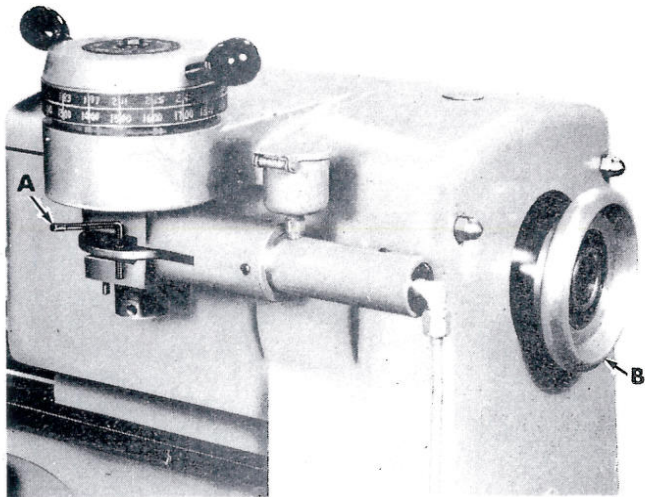
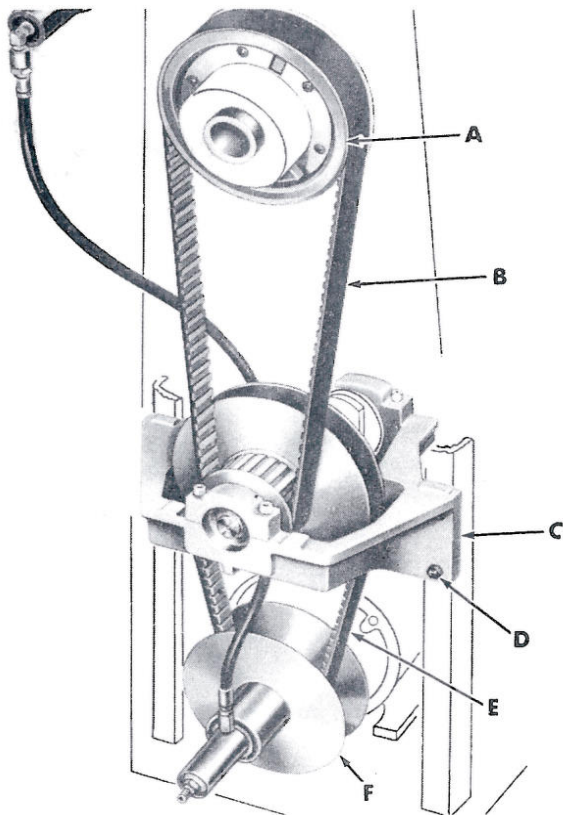
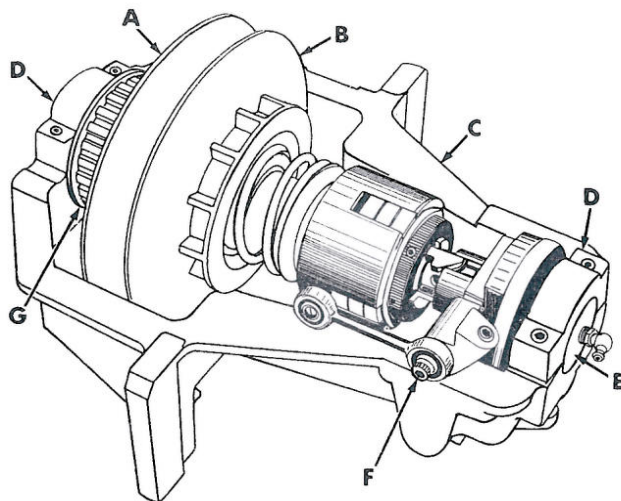

Figure 21
Figure 22
Figure 23
2. Remove spindle handwheel (B) (fig. 21), belt guards and front cover.
3. Turn variable dial back to lowest speed and lock dial in place with pin (A).
4. Holding variable dial against low speed stop, pull on outer sheave of lower variable motor pulley (F) (fig. 22) until variable belt (E) is loose.
5. Thru front cover opening, remove 5/16"-18 hex cap screw (F) (fig. 23) and spacer from clutch linkage.
6. Remove four hex nuts (D) (fig. 22). Raise countershaft (C) slightly and slip timing belt (B) off spindle pulley (A). Lower countershaft and slip variable belt (E) off variable motor pulley (F).
8. Remove bearing caps (D) (fig. 23), snap rings and countershaft spindle (E) from bracket (C).
11. Install spindle in countershaft bracket and secure in place with snap rings and bearing caps (D). IMPORTANT: Make sure timing belt is in place before installing bearing caps.
13. Position the countershaft (C) (fig. 22) so variable belt (E) can be slipped on motor pulley (F), then raise countershaft so timing belt (B) can be slipped on spindle pulley (A).
14. Place countershaft assembly on the four mounting studs (D), then snug up the four hex nuts. Refer to Tensioning Timing Belt steps 2-5.
16. Remove lock pin (A, fig. 21) from variable cam housing.
4. Pull on outer sheave of lower variable motor pulley (F) (fig. 22) until variable belt (E) is loose.
5. Thru front cover opening, remove 5/16" - 18 hex cap screw (F) (fig. 23) and spacer from clutch linkage.
9. Remove timing belt from countershaft pulley (G).
10. Place new timing belt on countershaft pulley (G).
11. Install spindle in countershaft bracket and secure in place with snap rings and bearing caps (D). **IMPORTANT:** Make sure variable belt is in place before installing bearing caps.
12. Position the countershaft (C) (fig. 22) so variable belt (E) can be slipped on motor pulley (F), then raise countershaft so timing belt (B) can be slipped on spindle pulley (A).
13. Place countershaft assembly on the four mounting studs (D), then snug up the four hex nuts. Refer to Tensioning Timing Belt Steps 2-5.
15. Remove lock pin (A, fig. 21) from variable cam housing.